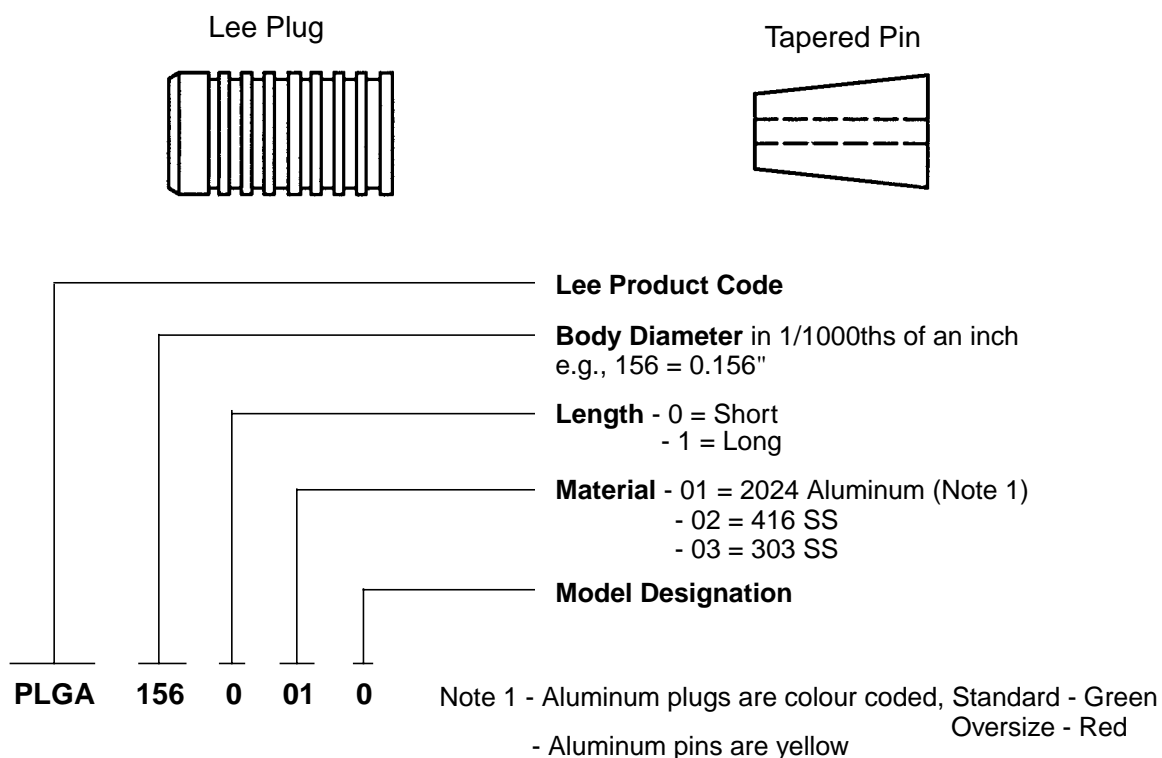
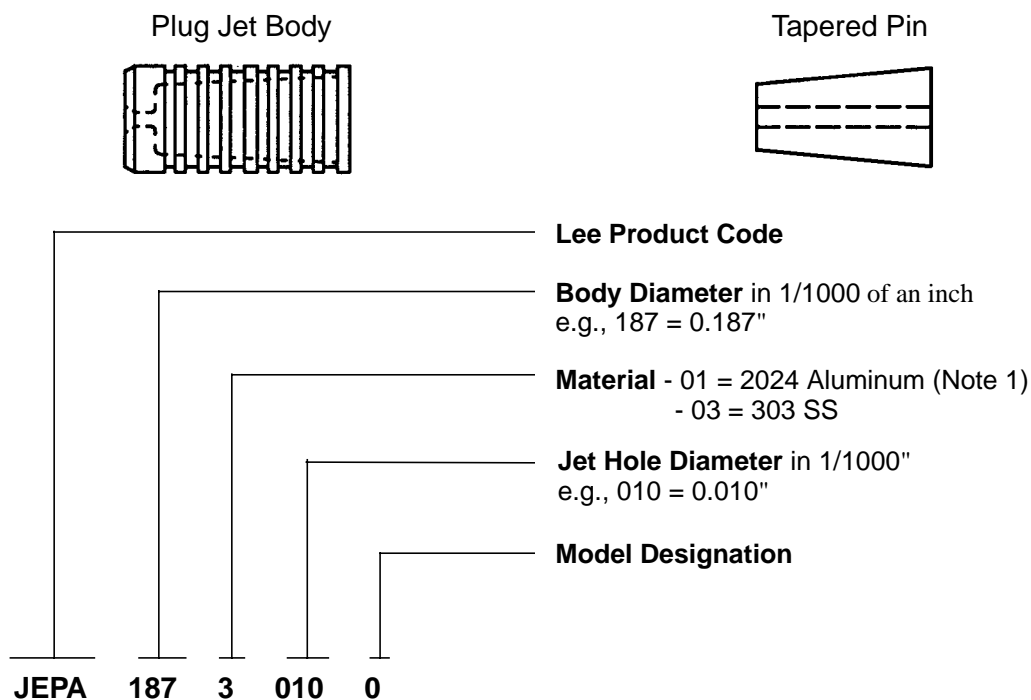
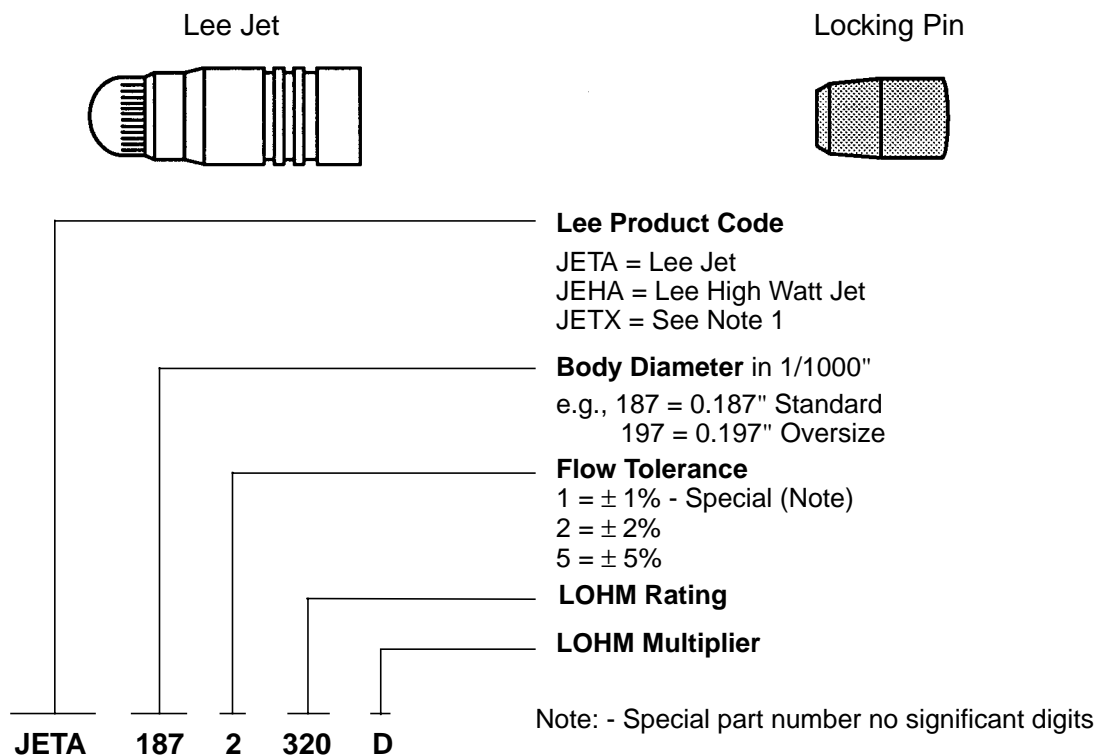
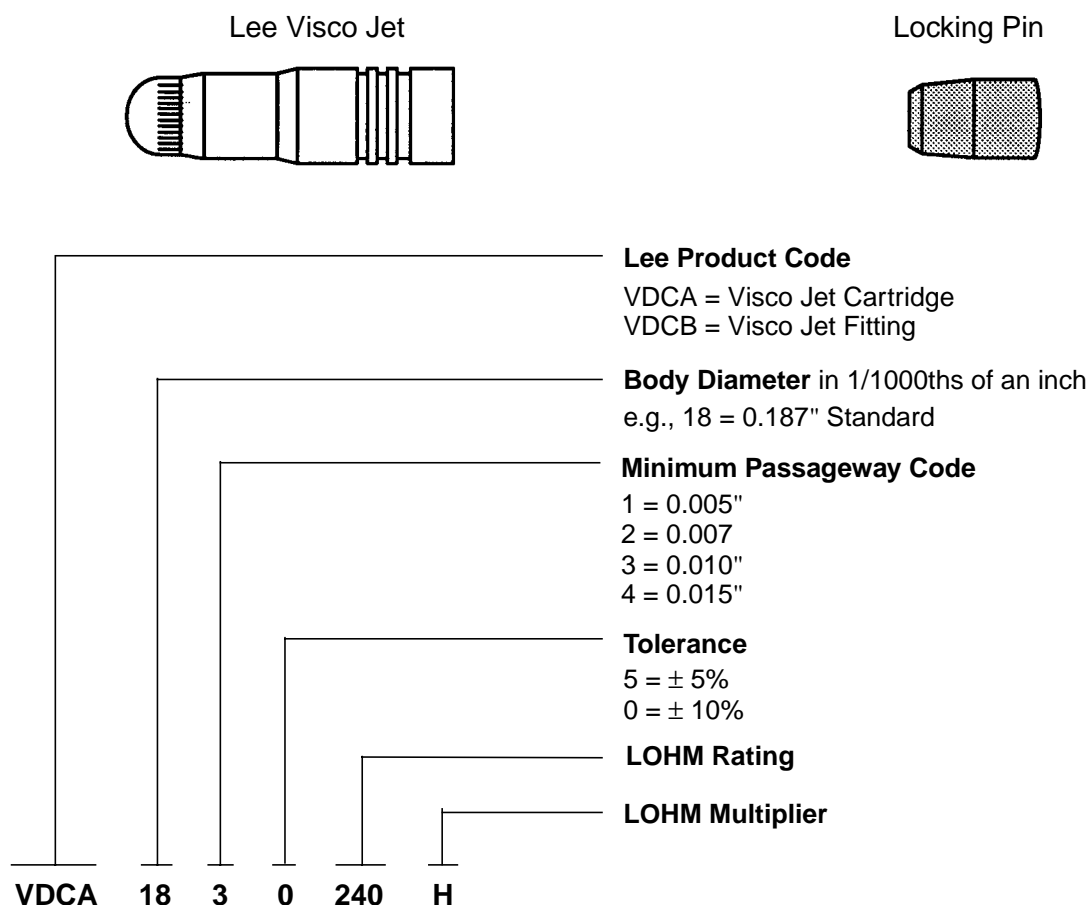

Figure 1 - Lee Plug Part Number Breakdown
Figure 2 - Lee Plug Jet Part Number Breakdown
Figure 3 - Lee Jet and Lee High Watt Jet Part Number Breakdown
Figure 4 - Lee Visco Jet Part Number Breakdown
| Figure 1 - Lee Plug Part Number Breakdown..... | 4 |
| Figure 2 - Lee Plug Jet Part Number Breakdown..... | 5 |
| Figure 3 - Lee Jet and Lee High Watt Jet Part Number Breakdown..... | 5 |
| Figure 4 - Lee Visco Jet Part Number Breakdown | 6 |
- 4.1.1 Lee hydraulic inserts as specified on the engineering drawing. Protect Lee inserts from dust, dirt, moisture or excessive heat and, if possible, store in their original packaging until they are installed. Refer to Figure 1, Figure 2, Figure 3 and Figure 4 for a part number breakdown for Lee Plug, Lee Plug Jet, Lee Jet & Lee High Watt Jet and Lee Visco Jet inserts, respectively.